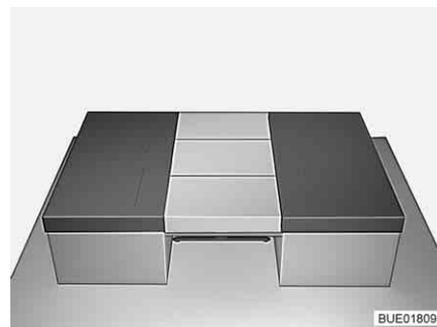

Fig. 84 After conversion
- Place three of the back cushions on the table (see Fig. 84).